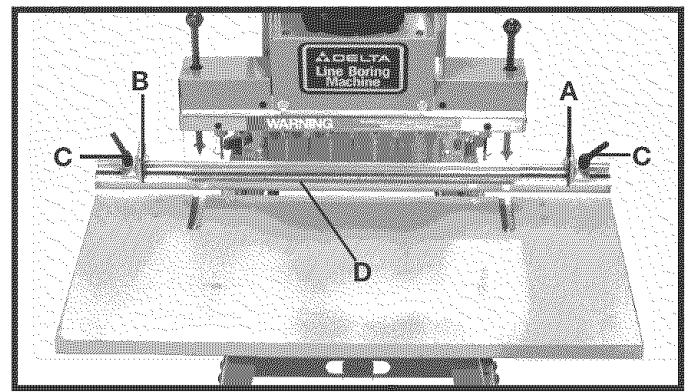

Fig. 58
Two fence stops, one right (A) Fig. 58, and one left (B), are supplied with your boring machine. A scale (D) is provided on the fence which has a "0" mark in the center and extends 15 inches out to the left and right. The stops (A) and (B) can be moved anywhere along the fence by loosening lock handles (C), moving the stops (A) and (B), and tightening lock handles (C). **NOTE:** The lock handles (C) are spring-loaded and can be repositioned by pulling out the handle and repositioning the hub of the handle on the nut located underneath the hub.